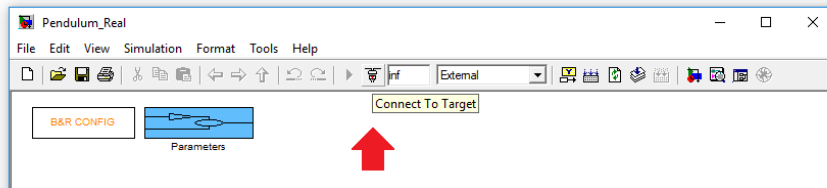

Figure 3.3: Press here to connect to the target.
2. Wait for the build to finish and then press the button indicated in Figure 3.3 to connect to the target.
Remark: Do not try to close the window in Figure 3.3 while you are still connected to the target and the manual allow signal is on.
- To start the experiment, proceed as in the first point described in section 3.2.2 and Fig. 3.3.
- Set the 'manual allow signal' in the Simulink file back to 0 and then press the disconnect button (Fig. 3.3) again if you want to stop the real-time execution.